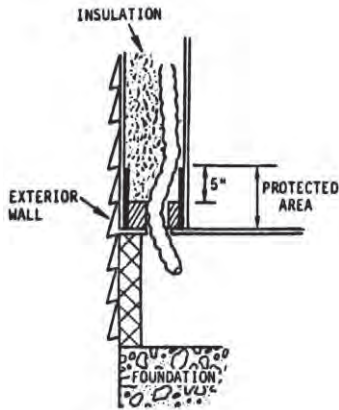

FIGURE 4-10
- Protection/Shielding is required 5" [127mm] [each side where appropriate] beyond the support area when points of penetration are less than 3" [76.2mm] from any edge of structural members. Refer to figures 4-10, 4-11, 4-15, 4-16, and 4-18 for examples.